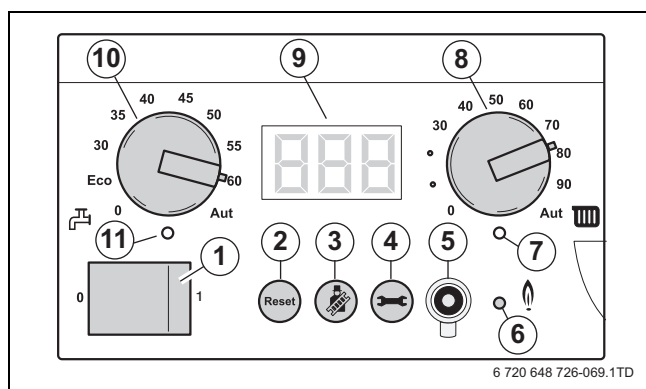

Fig. 86 BC10 basic controller
- ▶ Switch off the heating system by pressing the mains switch of the BC10 basic controller (→ fig. 86, [1]).
- ▶ Switch on the heating system by pressing the mains switch of the BC10 basic controller (→ fig. 86, [1]).
- ▶ After the “Burner” LED (→ fig. 86, [6]) has lit up wait for one minute until the boiler is burning at part load.
- ▶ Press the “Chimney sweep” button (→ fig. 86, [3]) until the dot disappears from the display.